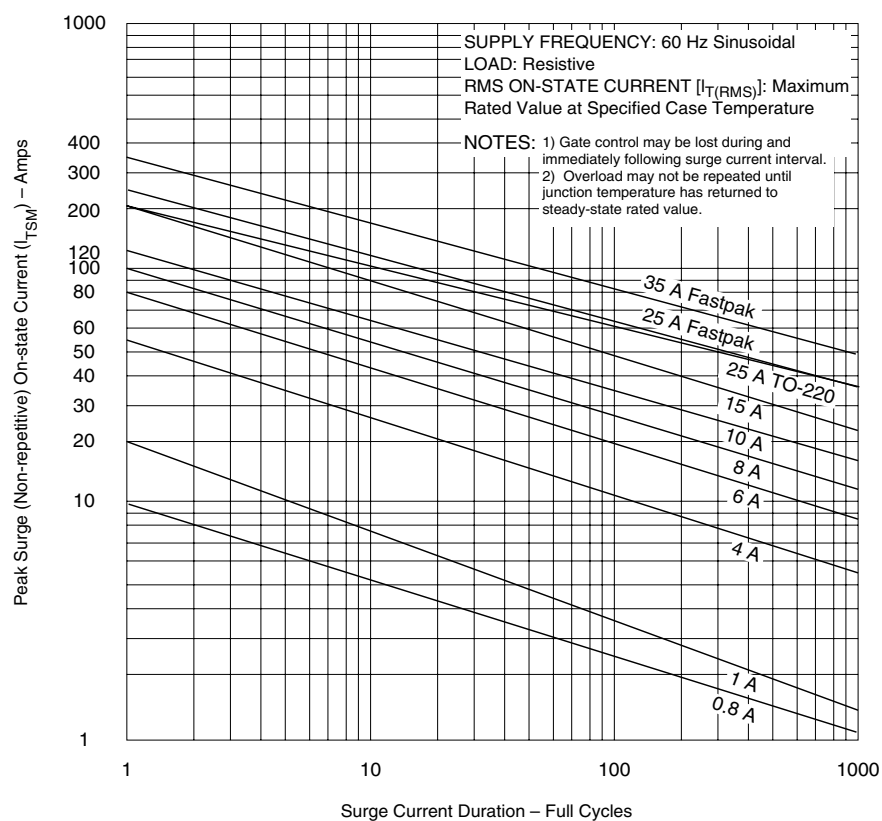

Figure E2.13 Peak Surge Current versus Surge Current Duration
- (9) See Figure E2.13 for surge rating with specific durations.